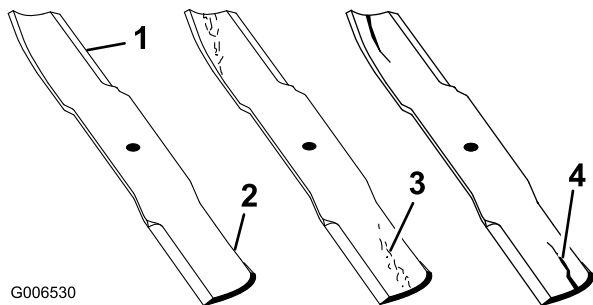

Figure 90
1. Inspect the cutting edges (Figure 90). If the edges are not sharp or have nicks, remove and sharpen the blades. Refer to Sharpening the Blades.
2. Inspect the blades, especially the curved area (Figure 90). If you notice any damage, wear, or a slot forming in this area (Figure 90), immediately install a new blade.